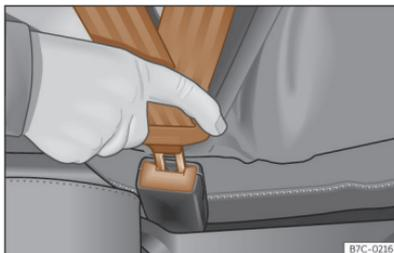

Fig. 37 Insert the latch plate of the seat belt into the buckle.
- Insert the buckle plate in the buckle of the correct seat >>> **Fig. 37**.